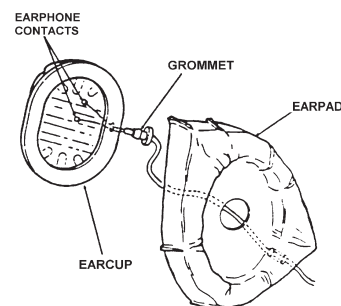

Figure 3-26. Earphone Contacts and Grommets
- g. Referring to Figure 3-26, remove the earphone contacts and the grommets from the earcup shell and the earpad.